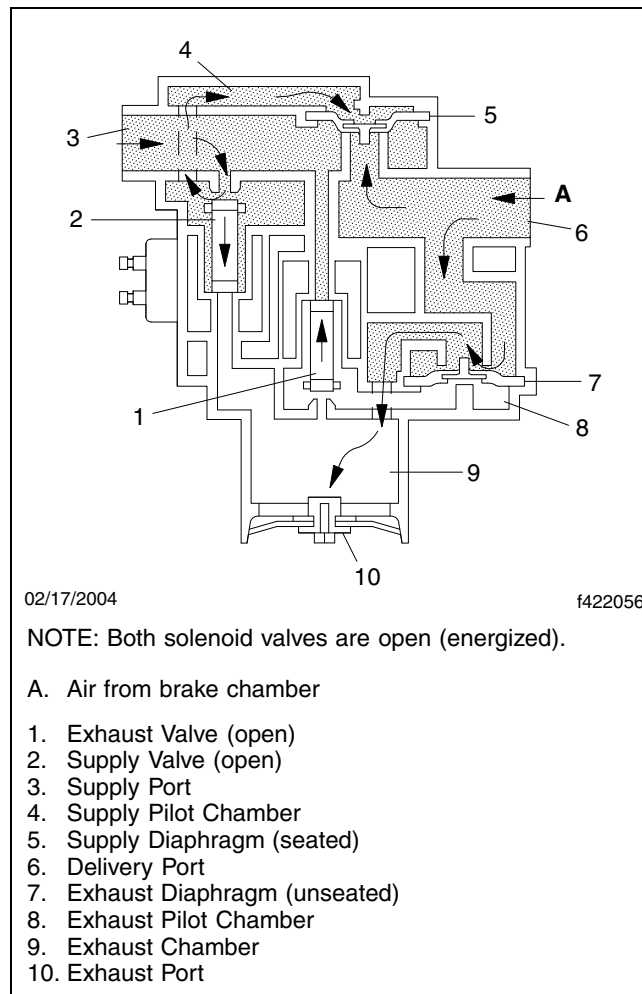

Fig. 4, Modulator Valve, Brake Release (exhaust)
- When a wheel is going to lock, the ECU opens (energizes) both solenoid valves in the ABS modulator valve. See **Fig. 4**.